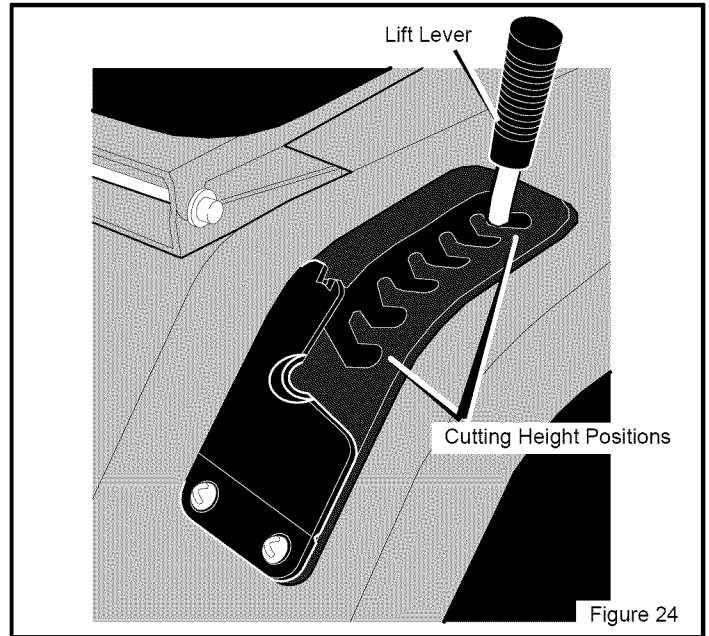

Figure 24
2. Mow a short distance on a flat level area to check the level of cut and the height of cut. Look at the **height of cut position number** on the **lift lever** (Figure 24).